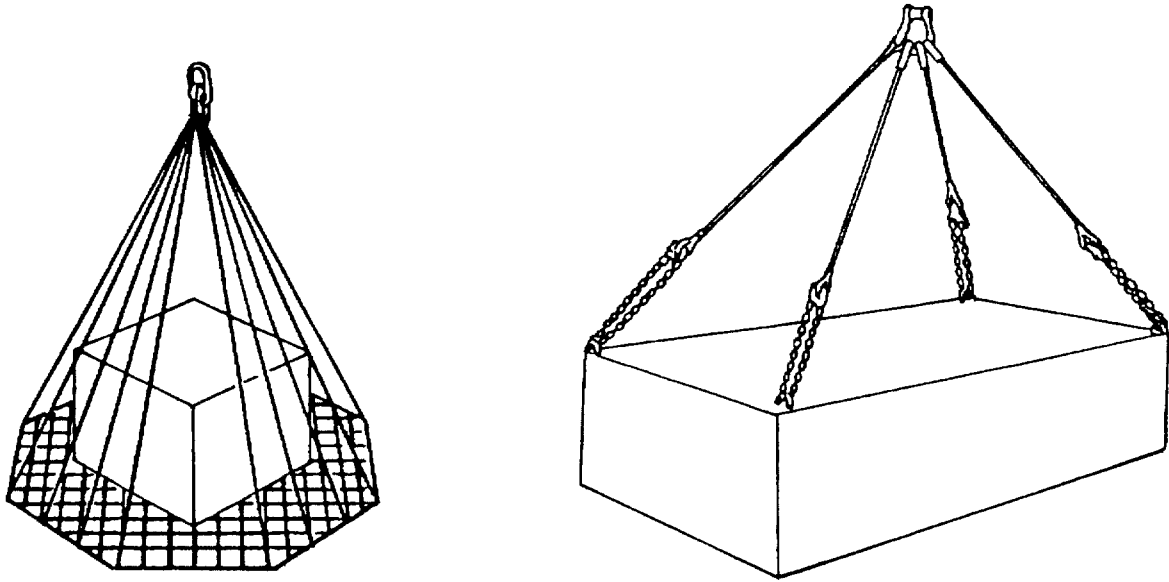

Figure 1-1. 10,000 lb. and 25,000 lb. External Transport Sling, 5,000 lb. , and 10,000 lb. External Transport Cargo Nets.
a. Type of Manual. This manual provides unit and intermediate direct support (DS) maintenance instructions” for the 10,000 and 25,000 lb. External Transport Slings Assemblies NSN 1670-01-027-2902 and NSN 1670-01-027-2900, and the 5,000 and 10,000 lb. External Transport Cargo Nets NSN 1670-01-058-3811 and NSN 1670-01-058-3810 (figure 1-1). This manual also includes a Repair Parts and Special Tools List located in Appendix C.